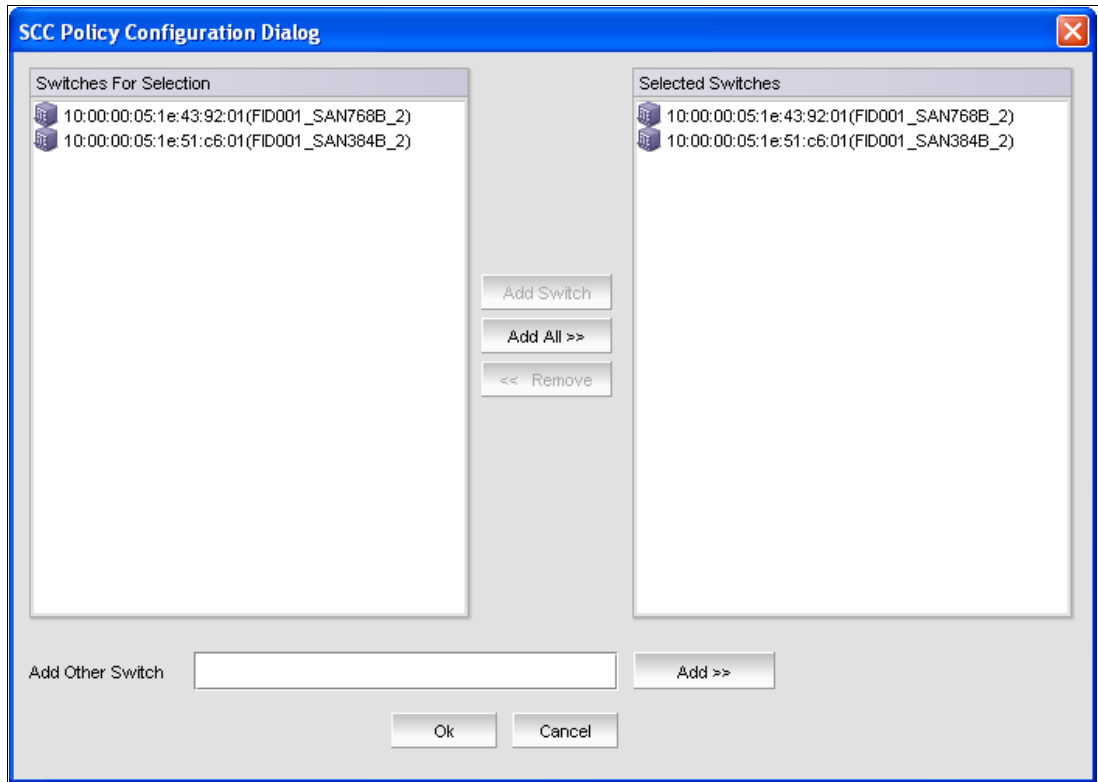

Figure 8-66 Creating SCC policy
11. Select the Director on the left side, and click **Add Switch** (see Figure 8-66 on page 307). This will add the WWNN of the Director you are connected to.